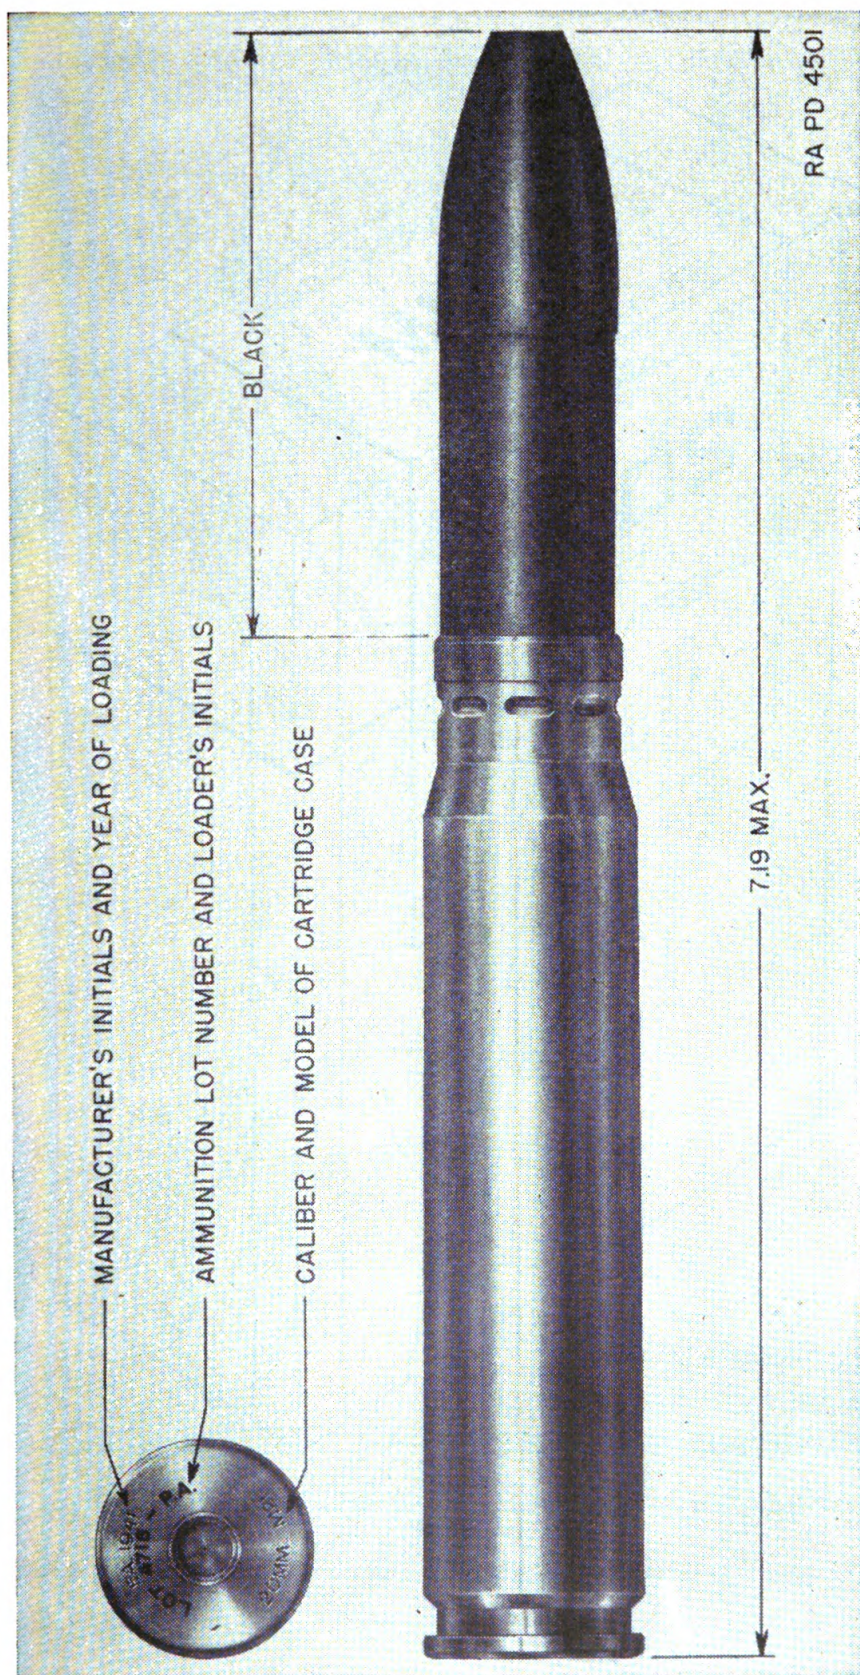

FIGURE 17.—Shell, fixed, practice, Mk. I, 20-mm automatic guns M1 and M2.
23. Shell, fixed, practice, Mk. I, 20-mm automatic guns M1 and M2.—This round, figure 17, consists of a primer and a propelling charge contained in a cartridge case which is crimped rigidly to a projectile. The projectile of this round, used for practice purposes, contains no explosive and has no fuze. The projectile is similar in shape and ballistic properties to the point-fuzed high-explosive incendiary projectile described in paragraph 21. The round is 7.23 inches long and weighs 0.56 pound. The propelling charge weighs 0.07 pound.